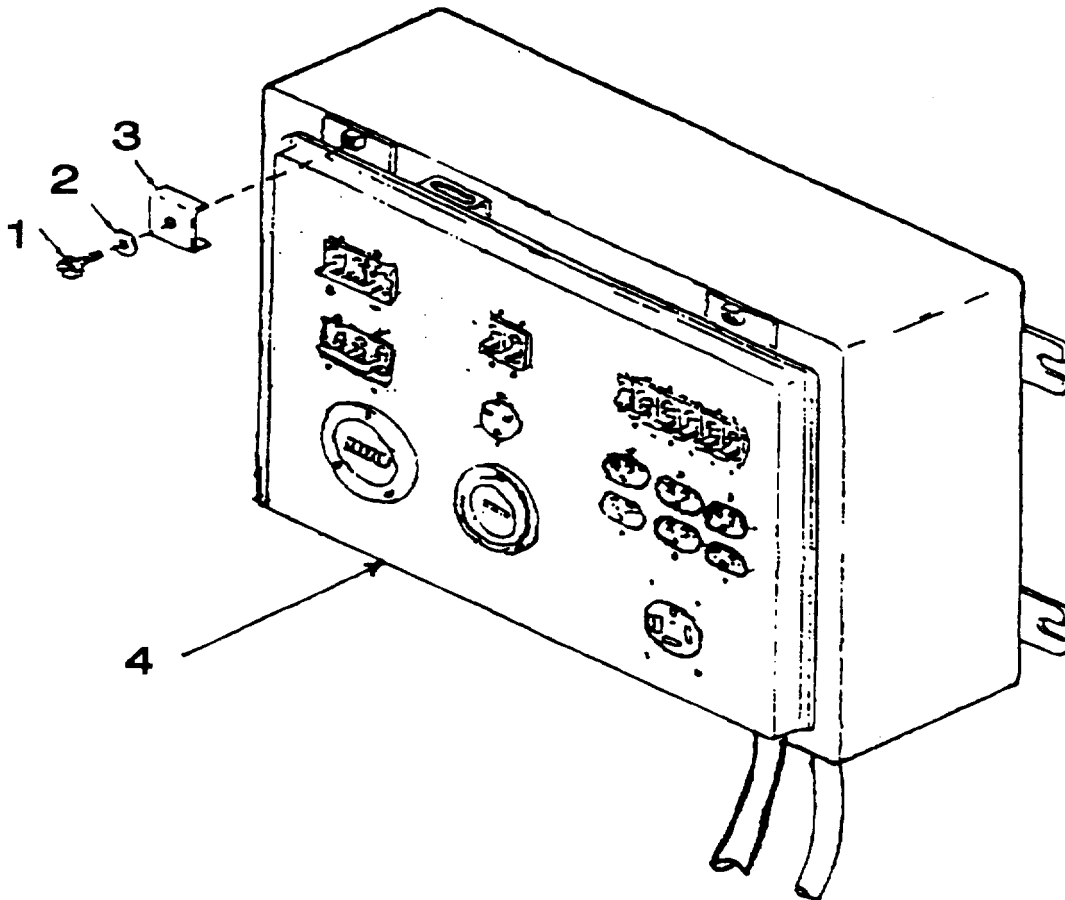

Figure 4-15. Control Panel Assembly.
- a. **Removal.** (Refer to figures 4-15 and 4-16.)
- (1) Remove two latch bolts (1, fig. 4-15), two washers (2), and two latches (3) on top edge of control panel assembly. Open front panel (4) and pivot panel downward.
##### d. Assembly. (Refer to figures 4-15 and 4-16.)
- (2) Pivot front panel (4, fig. 4-15) upward and secure with two latches (3), two washers (2), and two latch bolts (1) on top edge of control panel assembly.